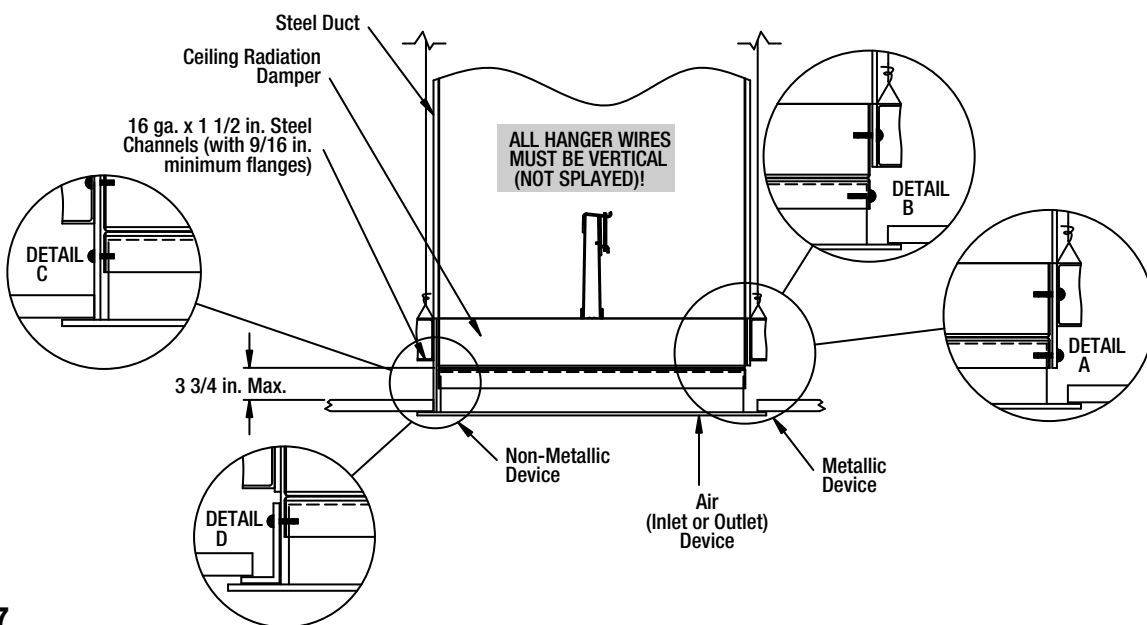

Figure 7
Ceiling radiation dampers and air inlet or outlet devices may also be supported directly from the structure above using one or more of the methods described in Figures 7, 8, 9, or 10. When channels are to be used as support, they must be 16 ga. x 1½ in. steel channels with 9/16 in. minimum flanges
1. Ceiling radiation damper and air device neck may be connected directly to the duct drop (See *Detail A, Figure 7*).
2. Ceiling radiation damper may be connected directly to the air device neck and then the duct drop connected to the damper (See *Detail B, Figure 7*).
1. The steel duct drop should extend to the bottom surface of the ceiling membrane and the opening in the ceiling membrane (see page 1, paragraph 3) should be equal to the outside of the duct drop (See *Detail C, Figure 7*). Models CRD-1, CRD-1LP, CRD-2, and CRD-60 may be installed as shown in **Figure 7** (Model CRD-1 & CRD-1LP Illustrated).
2. A steel angle should be attached to the bottom of the of the ceiling radiation damper and span the gap from the ceiling radiation damper to the bottom of the ceiling membrane. The steel angle should overlap the ceiling membrane (See *Detail D, Figure 7*).
Models CRD-1, CRD-1LP, CRD-2, and CRD-60 may be installed as shown in **Figure 7** (Model CRD-1 & CRD-1LP Illustrated).